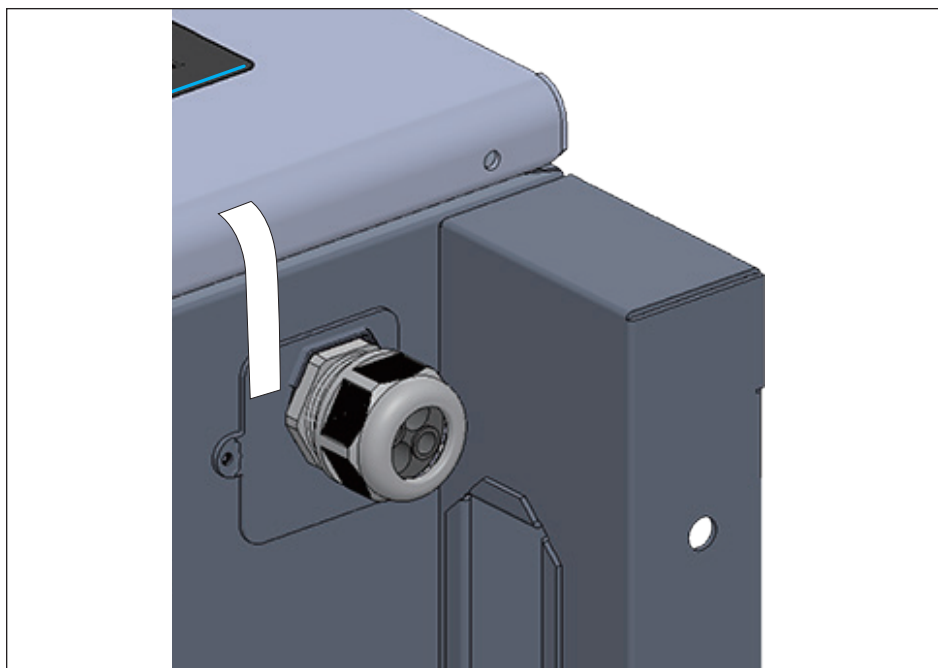

Figure 3-30: Apply a security seal on LED side door and Communication Module
- After completing the wiring operation and ensuring the cover no longer needs to be opened, please refer to **Figure 3-30** to apply a brand new one-time-use security seal (item 7, **Table 2-1**) .